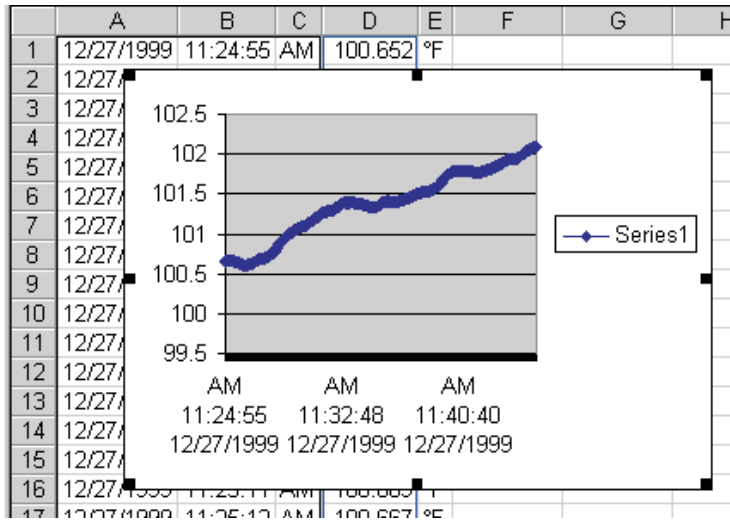

Figure 12 Chart of output file
- The graph should be displayed as shown in Figure 12.